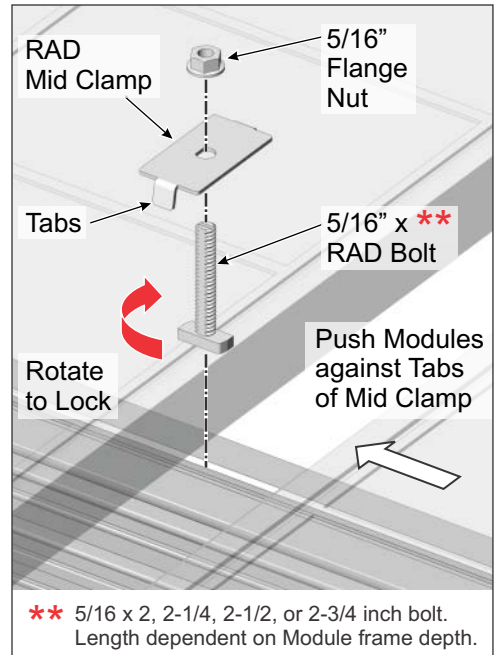

Figure 4-7: Installing Modules using RAD Mid Clamp
- C. Insert one 5/16" x 2, 2-1/4, 2-1/2, or 2-3/4" RAD bolt (bolt length is dependent on depth of Module frame) into each Rail, next to the previously installed exterior Module. Twist RAD bolt to lock in place. (See Figure 4-7)